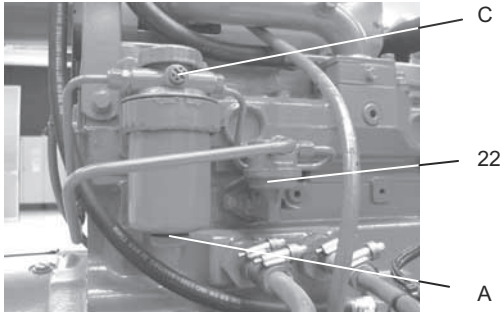

Fig. 52 Venting of fuel system through the fuel filter, JU4H and JU6H
The condensate collector of the fuel filter is under the fuel filter (fig. 52, pos. A). Loosen the knurled nuts of the condensate collector. Collect the fuel containing water in a suitable container and dispose of it in an environmentally sound way. Tighten them when the diesel fuel runs clean, i.e. without water.
1. Loosen the vent screw (fig. 52, pos. C) of the filter holder by turning it two turns by hand.
2. Operate the lever of the fuel suction pump (fig. 52, pos. 22) until the diesel fuel running out of the vent port does not contain air bubbles. Collect the fuel in a suitable container and dispose of it in an environmentally sound way.
2. Operate the lever of the fuel suction pump (fig. 52, pos. 22) until the diesel fuel running out of the connector does not contain air bubbles. Collect the fuel in a suitable container and dispose of it according to regulations.